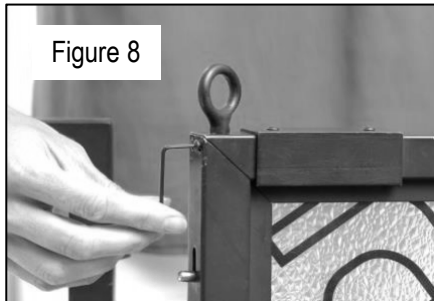

Figure 8
Step 1: Using the Allen wrench, remove the two corner connector screws as shown in Figure 8. Unscrew and remove the finial and finial tube.